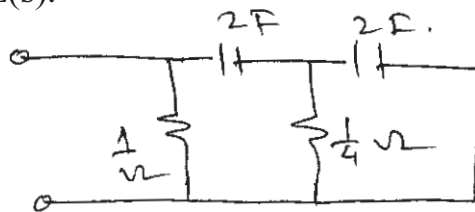

Figure 1
b) For the network shown in figure.1, find the driving point impedance function $Z(s)$. [6]